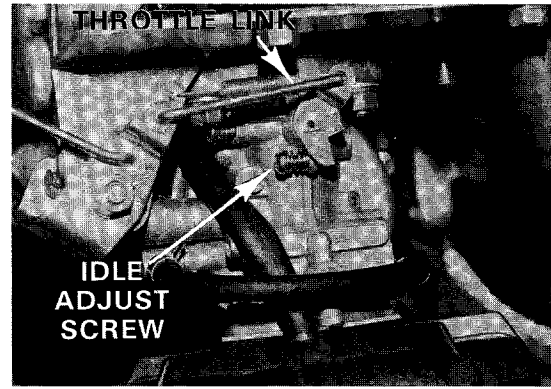

Figure 7-20
9. Set idle at carburetor idle adjust screw (Figure 7-20).